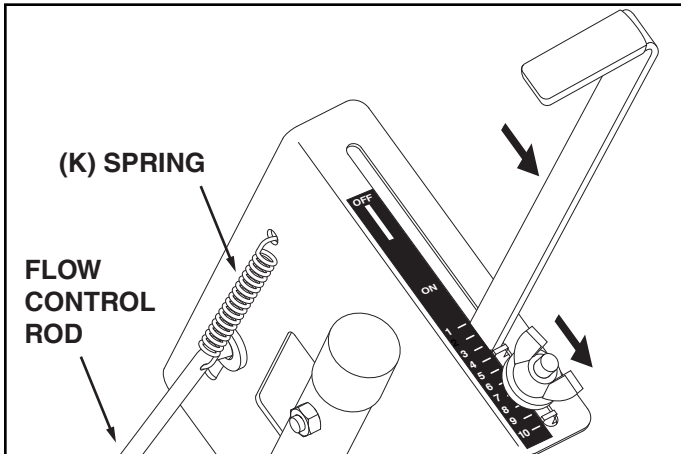

FIGURE 8
15. Slide the adjustable stop to the end of the slot. Move the flow control arm against the stop. Assemble the spring (K) to the flow control mounting bracket and then to the flow control rod. See figure 8.